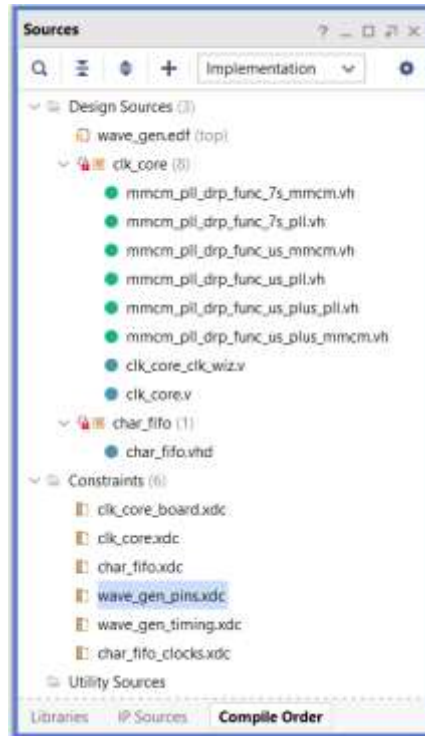

Figure 35: Compile Order
13. Select the Compile Order tab and select **Implementation** to see the order in which the design source files and constraints are processed (Figure 35.)